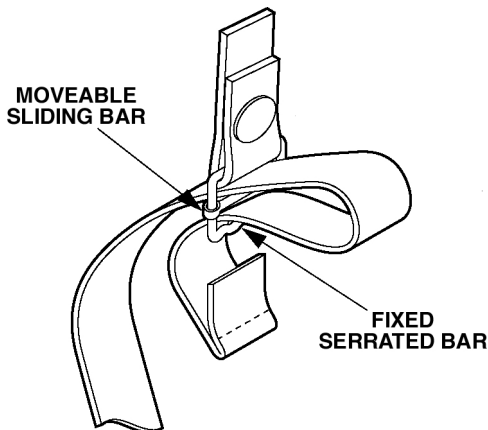

Figure 3-2. Threading the Sliding Bar Buckles.
(1) Thread the strap from the inside of the buckle over the moveable sliding bar (see Figure 3-2). Thread the strap back through the buckle but this time under the moveable sliding bar and over the serrated part of the buckle.